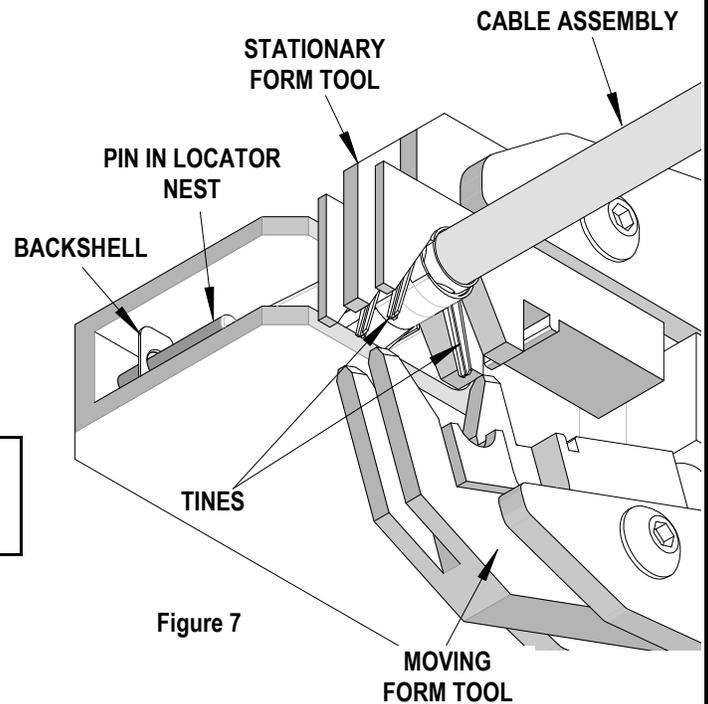

Figure 7
2. Push the backshell with the cable assembly through the hand tool until the holes on the flat end of the backshell is over the 2 pins of the locating nest. The tines should be over the tooling nest. See Figure 7.